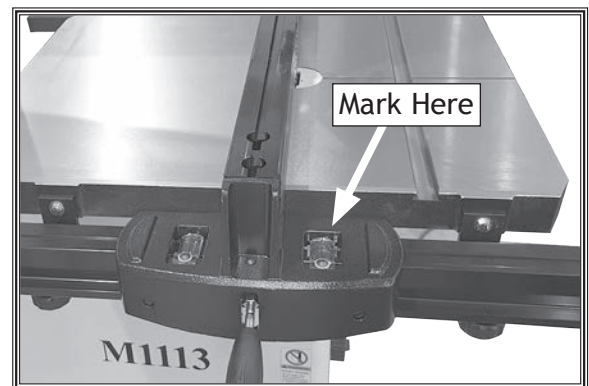

Figure 12. Scale marking location.
18. Use a sharp pencil to mark fence rail where fence scale indicator on right-hand side is pointing (see Figure 12). This mark will indicate where to align the 0" mark when you install the scale in Step 20.